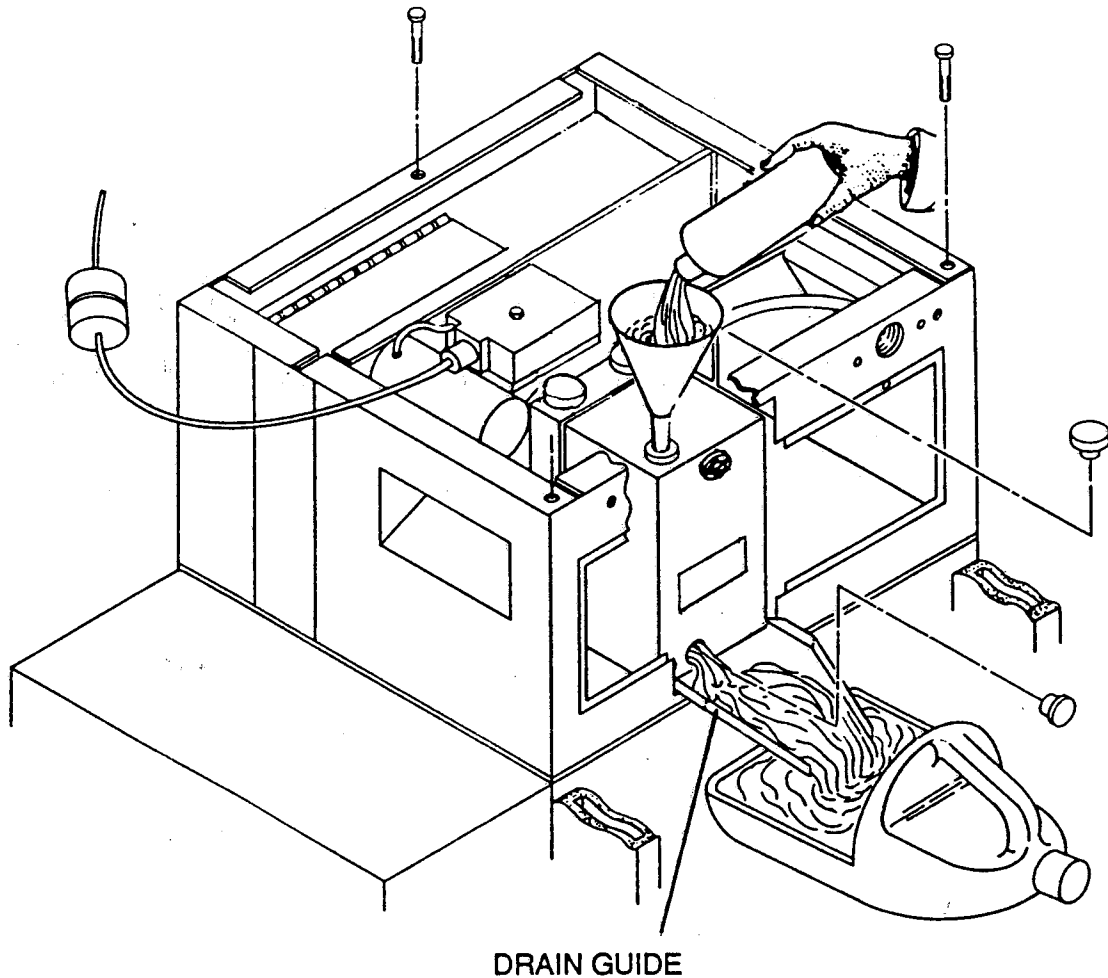

Figure 5-1. Fore Pump Flush and Oil Change
- 4 Use the forepump drain guide (provided near the forepump) to guide the oil away from the leak detector and into the drain pan (see Figure 5-1).
- a) Fore pump flush and oil change (See Figure 5-1)
- 6 Remove three screws to separate the basic module from the pump modules. See Figure 5-1.
- 2 Open the gas ballast valve on the pump by turning it counter-clockwise. See Figures 5-1 and 5-2 for the location of the valves on the each pump.
- 3 Run the leak detector for 30 minutes then close the gas ballast valve (1). This procedure should evaporate most of the moisture which is mixed with the oil. (This may produce undesirable oil vapors in a closed room; exhaust these vapors outdoors if possible). If it does not evaporate the moisture, change the oil.